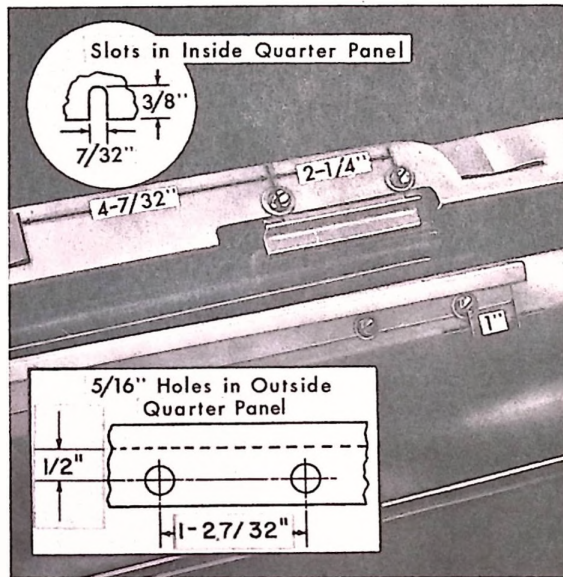

FIGURE 2
Drill two 5/16" holes in the top of the outer quarter panel. (Centers to be 1/2" out from outside trim molding attaching flange.) See Figure 2.
3. Position the outer bumper under the flange of outer quarter panel as shown in Figure 2, and secure with screws and plain washers.
Drill two $7/32$ " holes $3/8$ " from edge of cut-out, on $2-1/4$ " centers, then slot by removing excess metal between holes and edge of cut-out with a pair of diagonals. Refer to Figure 2.